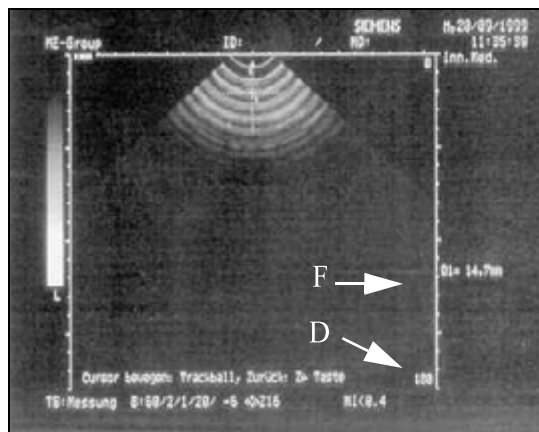

Fig. 72: Target test 1
- Set the value (D/Fig. 72 / p. 69) via the knob  to 180.
- Use the track ball to move to the center of the crosshairs. A value according to the table must appear in the display (F/Fig. 72 / p. 69) as a function of the probe.